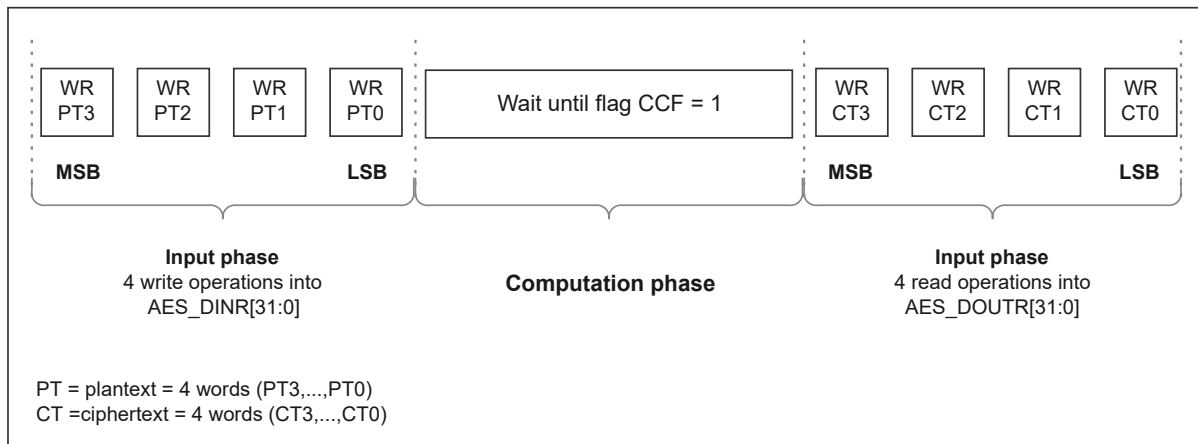

Figure 15-16 ECB/CBC/CFB/OFB Encryption (Mode 1)
6. Write the AES_DINR register four times to input the plaintext (MSB first), as shown in Figure 15-16
8. Read the AES_DOCTR register four times to get the ciphertext (MSB first), as shown in Figure 15-16. Then, clear the CCF flag by setting the CCFC bit of the AES_CR register.